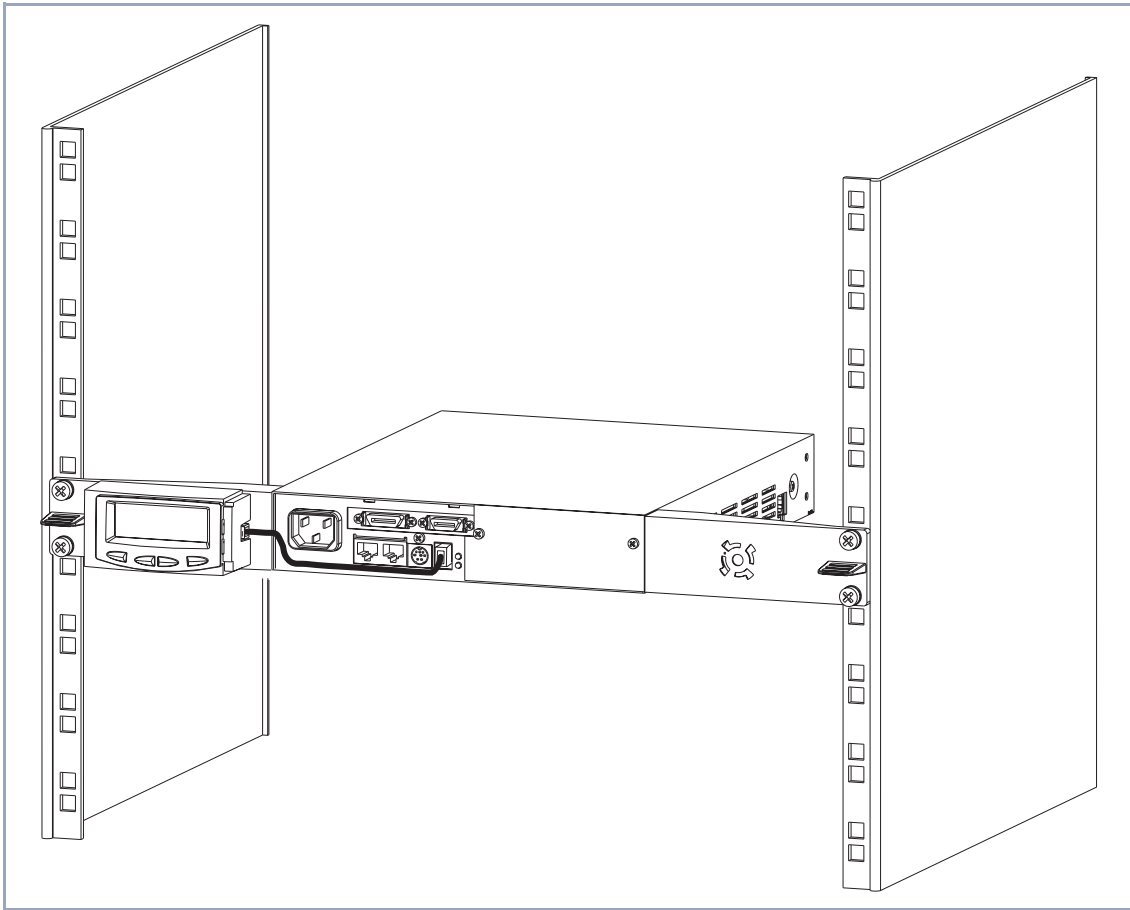

Figure 3-13: **X4000** installed with connections at the front
- Step 6** ➤ Slide this preassembled unit with the two brackets screwed to it into the cabinet and screw the preassembled unit to the longitudinal sections of the cabinet (these screws are not supplied with **X4000**, but are included with the cabinet), see Figure 3-13, page 52.